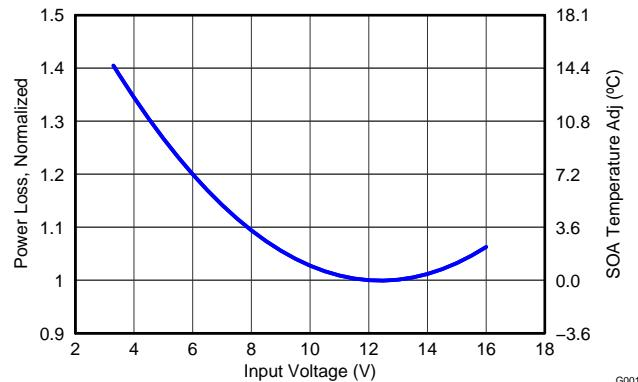

Figure 13. Normalized Power Loss vs Input Voltage
- Normalized Power Loss for input voltage ≈ 1.15 (Figure 13)
- SOA adjustment for input voltage $\approx 5.4^{\circ}\text{C}$ (Figure 13)